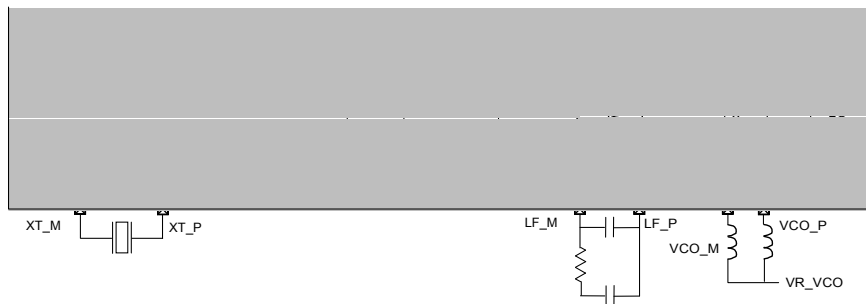

Figure 5: Frequency Synthesizer Description
The crystal oscillator (XO) forms the reference oscillator of an Integer-N Phase Locked Loop (PLL), whose operation is discussed in the following section. Figure 5 shows a block schematic of the RFM64W PLL. Here the crystal reference frequency and the software controlled dividers R, P and S determine the output frequency of the PLL.
As shown in Figure 5 the PLL structure comprises three different dividers, R, P and S, which set the output frequency through the LO. A second set of dividers is also available to allow rapid switching between a pair of frequencies: R1/P1/S1 and R2/P2/S2. These six dividers are programmed by six bytes of the register MCPParam from addresses 6 to 11.